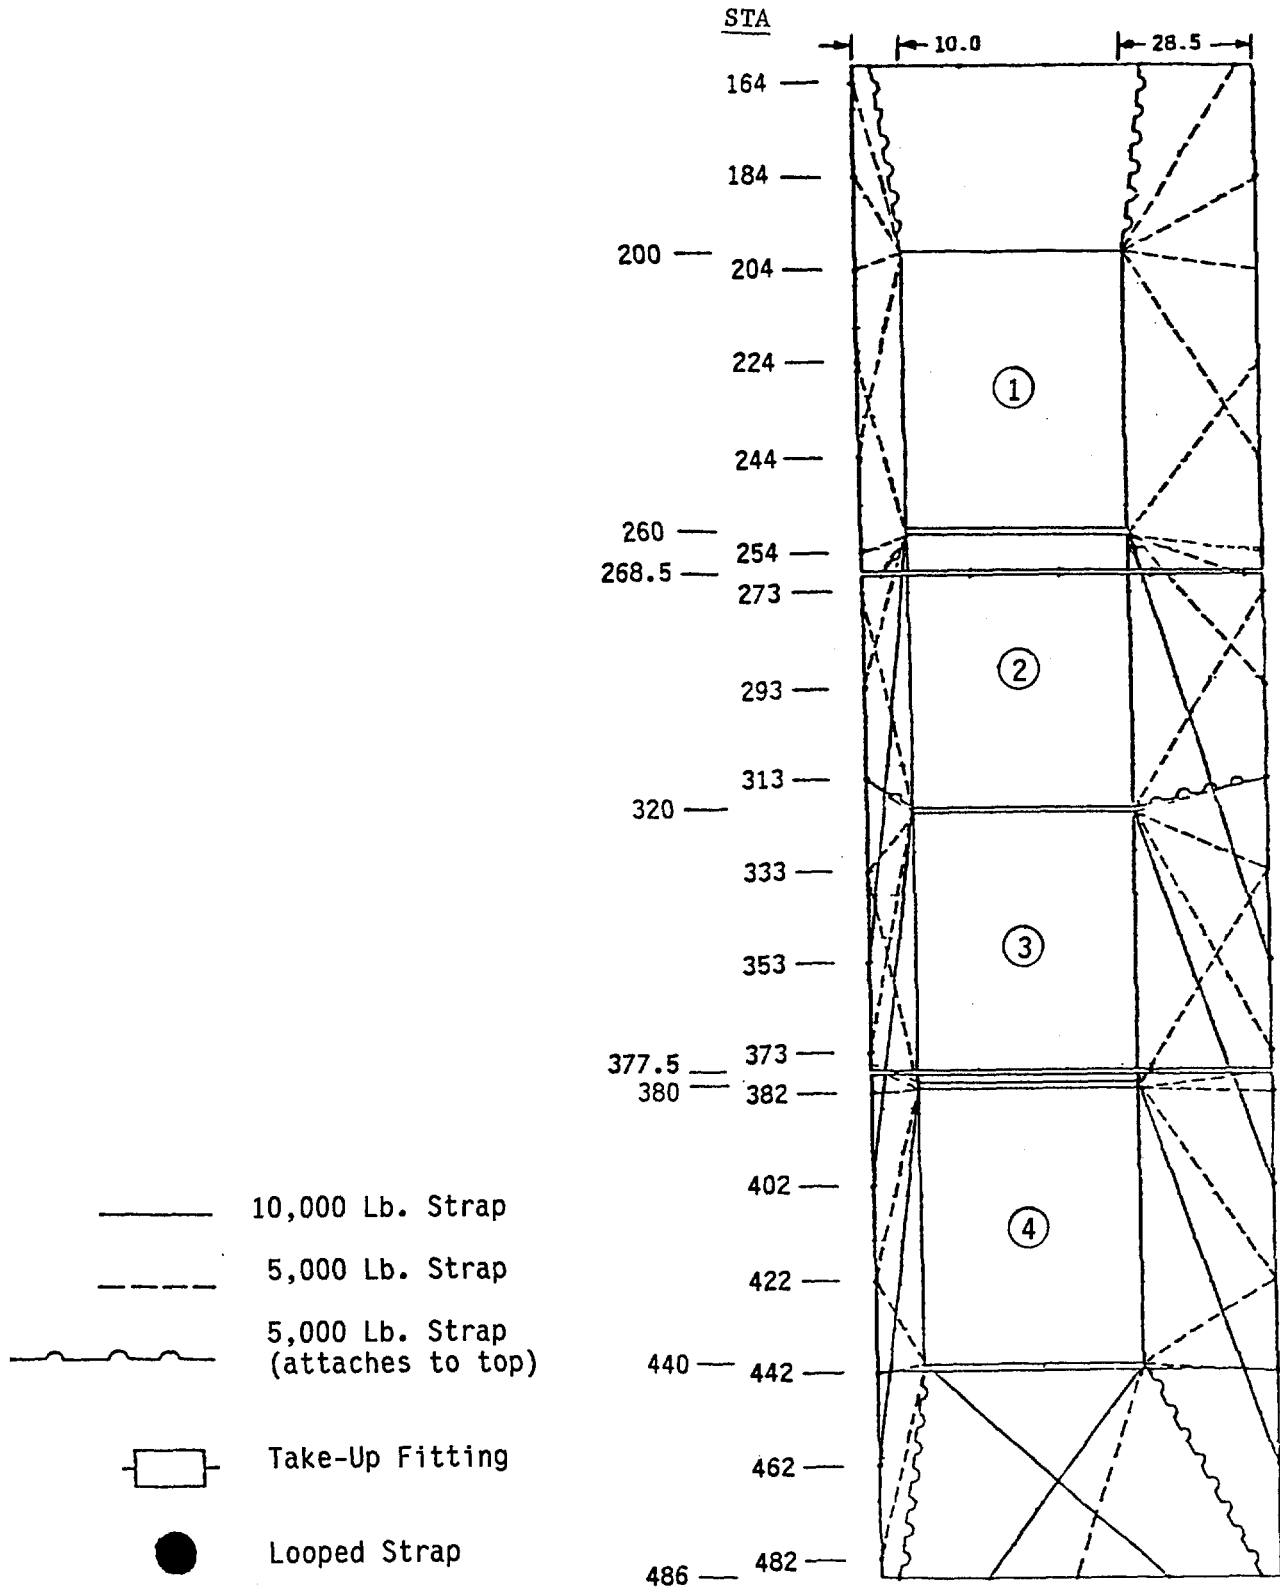

Figure 2-20. Four Tanks with Pallets
- Four tanks w/pallets, Fig 2-20